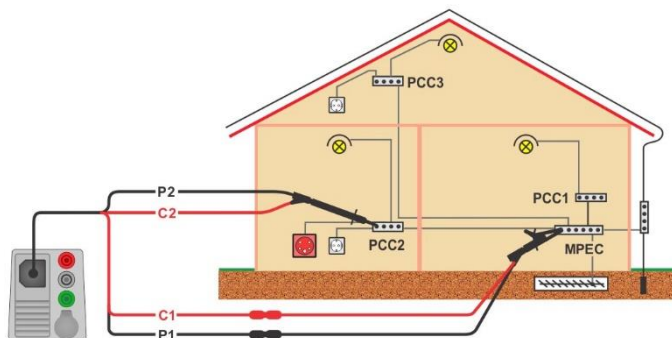

Figure 7.26: Connection of 4-wire test lead plus optional extension leads
- ▶ Connect test leads to device under test, see **Figure 7.26**. Use extension leads if necessary.